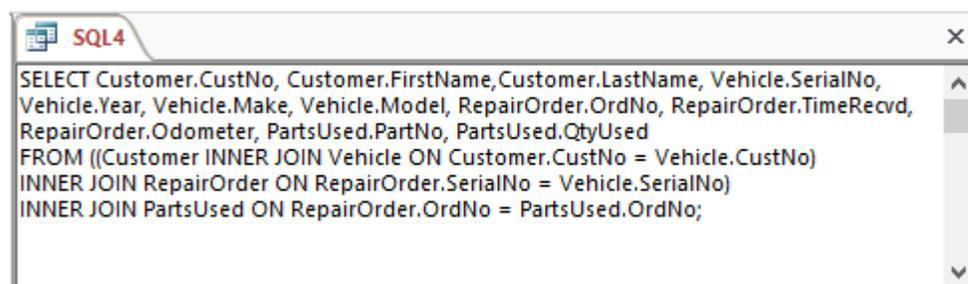

Figure 40: SQL Window Containing “SQL4”
4. Add a Table to the Query: To add the *PartsUsed* table to the query, type the additional code seen underlined below. The full SQL statement also appears in Figure 40. Note that you should add the *PartNo* and *QtyUsed* fields from the *PartsUsed* table since *OrdNo* is already contained in the query from the *RepairOrder* table.